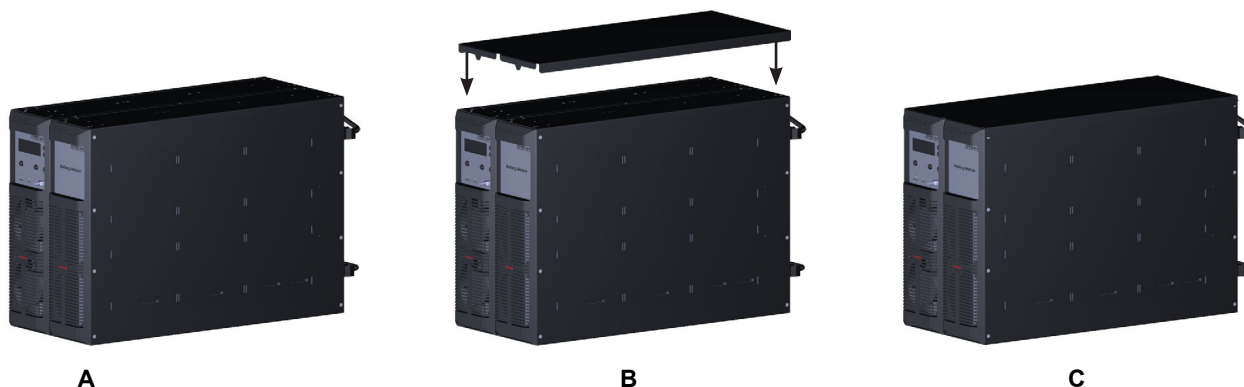

FIGURE. 6-7: INSTALL CAP ON TWO MODULE TOWER SYSTEM
NOTE: There is a Tower Cap for 2-, and 3-module tower systems. Fig. 6-7 shows Tower Cap installation for a 2-module system.
3. Press the T1000 Tower Cap over the tower modules (Fig. 6-7).